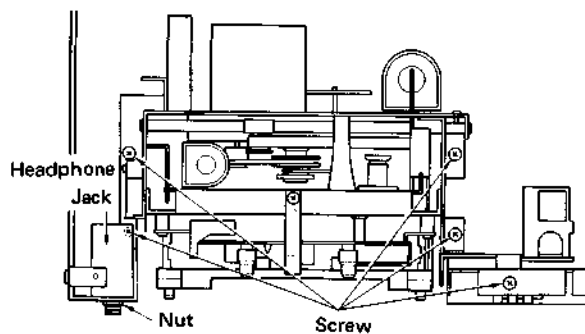

Fig. 4
- 4) Take off the nut and also the headphone jack shown in Fig. 4.
- 5) Undo 5 screws shown in Fig. 4.